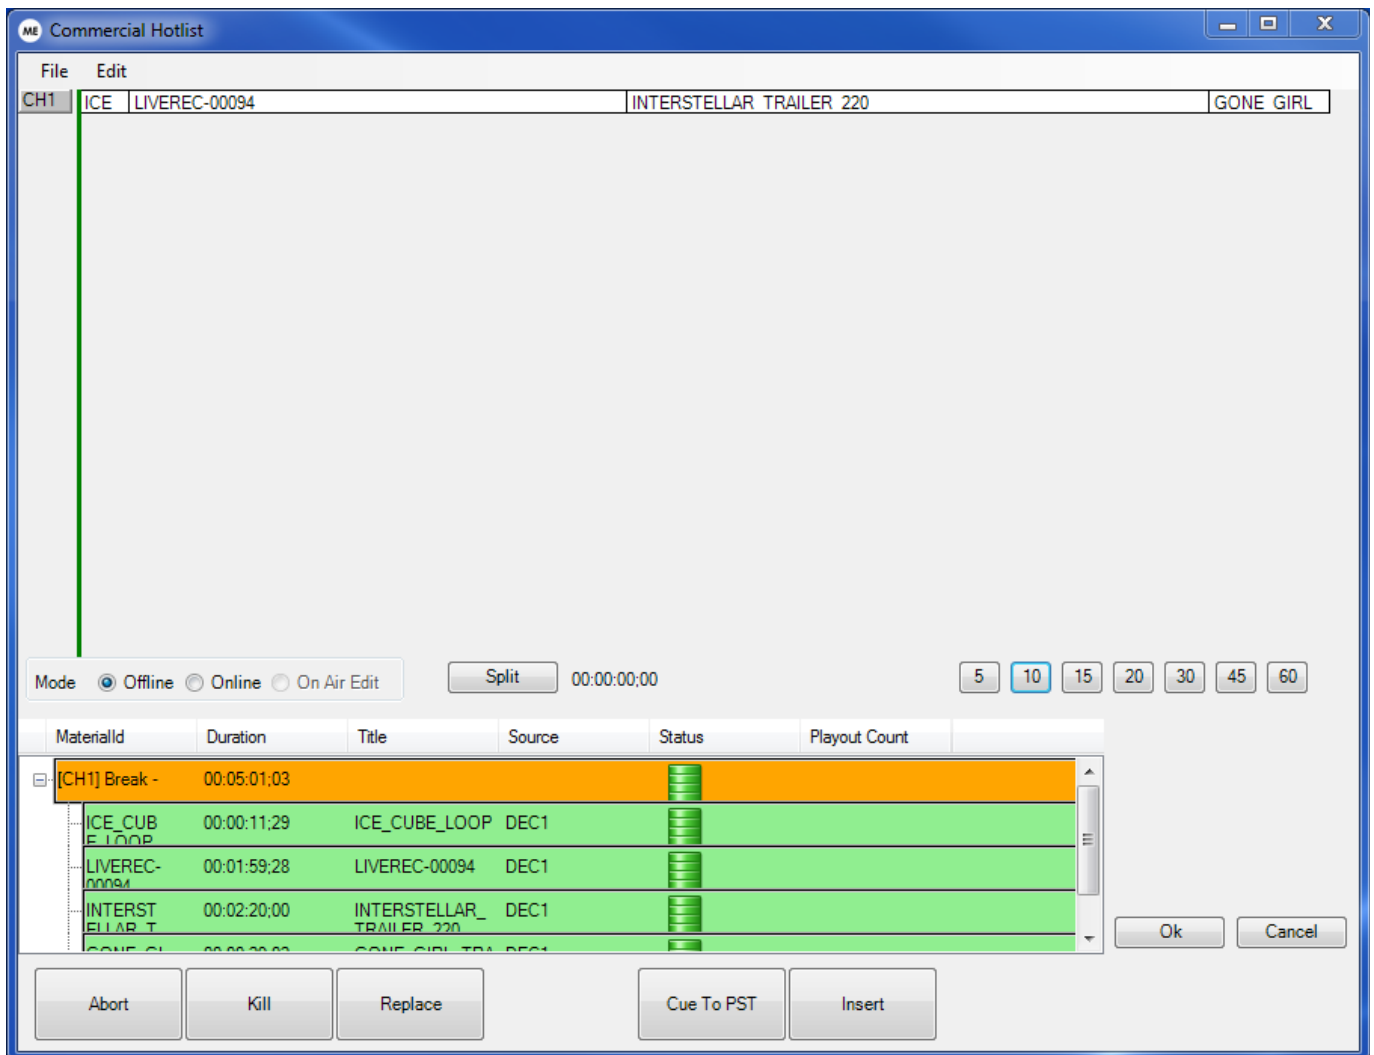

Figure 225 Commercial Hotlist Main Window
1. In the Editor, select **Commercial Hotlist** from the **Tools** menu - the commercial hotlist window is displayed (Figure 225).